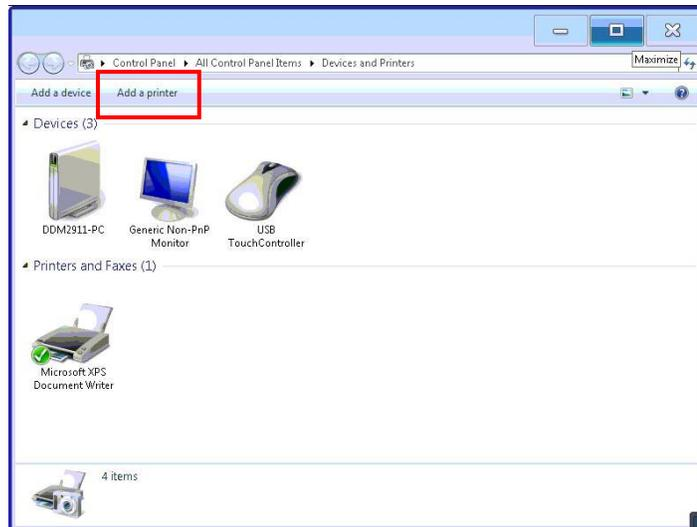

Figure 10-28 - Adding a Network Attached printer
- 5) Select **Add a printer** from the menu at the top of the window. (Figure 10-28 10.25) below